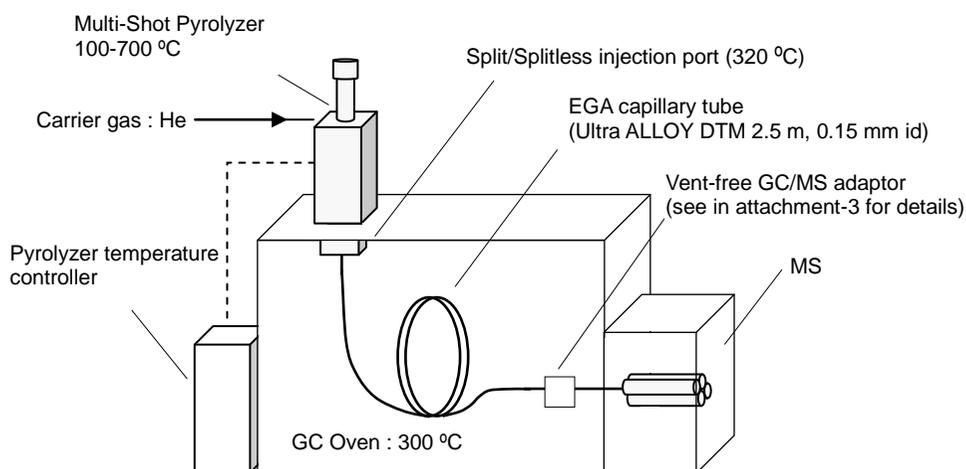

Fig. 6-1 Flow configuration for EGA
Fig. 6-1 shows the gas flow configuration for performing evolved gas analysis (EGA). The sample is “dropped” into the “Multi-Shot” Pyrolyzer. The furnace temperature is programmed from a low to a higher temperature. As the sample is heated, vapors evolve. The vapors are swept through the split/splitless injection port. A fraction (e.g. 1/50) of the gases pass through the EGA capillary tube which is kept at 300 °C to prevent condensation. The gases are “detected” by a mass spectrometer (MS). A plot of sample temperature v. detector response is called a ‘thermogram’.